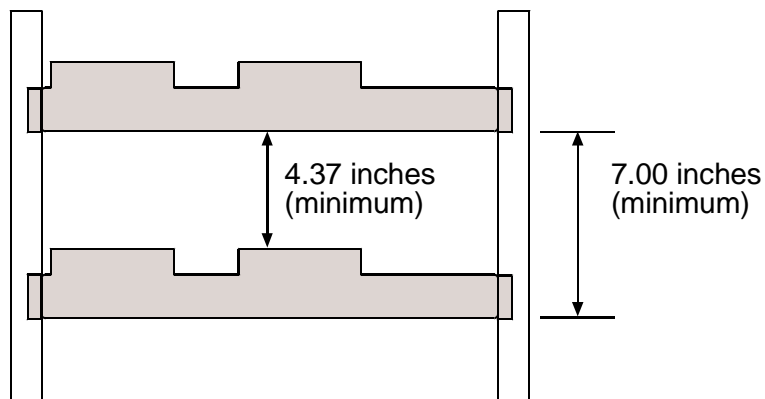

Figure 5-3. Spacing Requirements
1. Position Access Navigator in equipment rack slot (refer to office records). Ensure that there is at least 4.37 inches (2.5 rack units) of free air space above and below chassis for cooling (see Figure 5-3 on page 5-6).